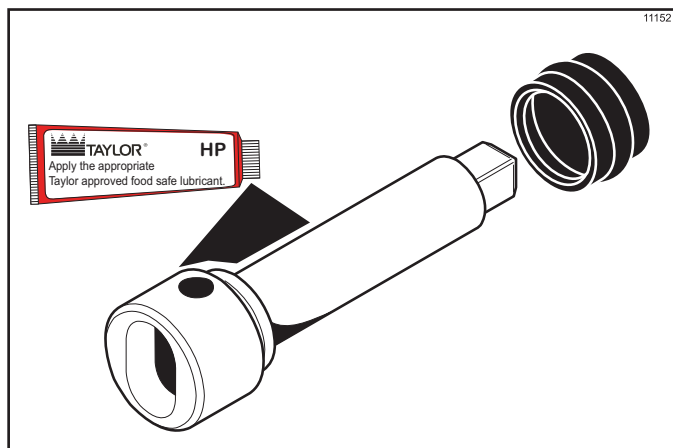

Figure 6-2
1. Before installing the shake beater driveshaft, lubricate the groove on the beater driveshaft. Slide the beater driveshaft boot seal over the small end of the beater driveshaft and engage into the groove on the shaft. Heavily lubricate the inside portion of the boot seal, and also lubricate the flat end of the boot seal that comes in contact with the rear shell bearing. Apply an even coat of lubricant to the shaft. **Do not** lubricate the square end. (See Figure 6-2.)